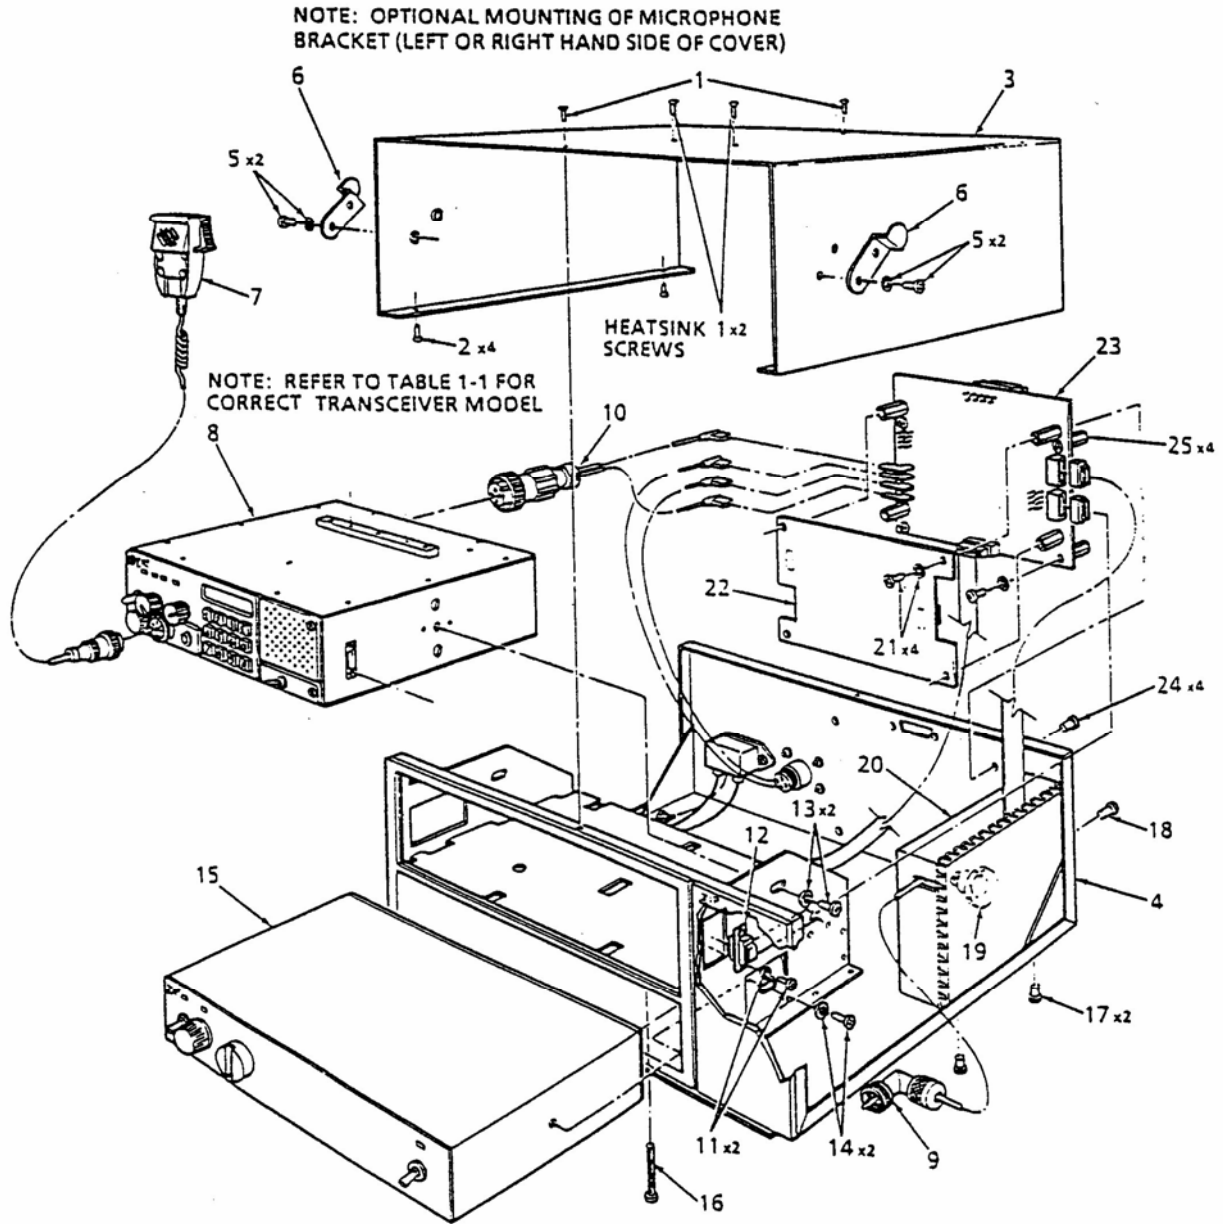

FIGURE 2.1 Base Station Assembly/Disassembly
2.2 DISASSEMBLY/ASSEMBLY (Refer to Figure 2.1)